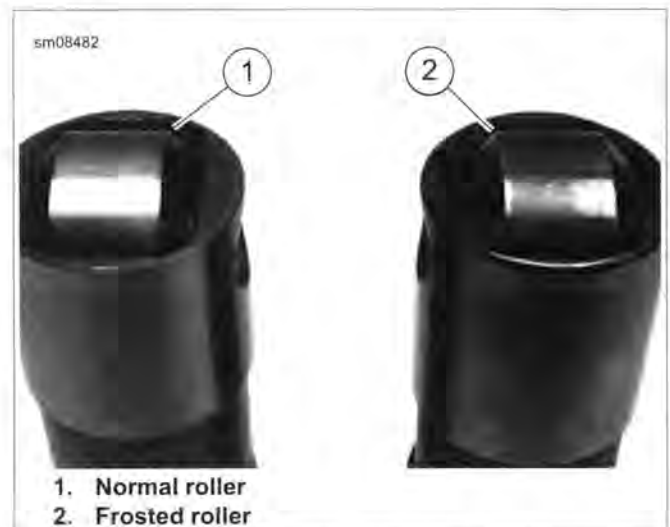

Figure 3-31. Roller Inspection
- c. See Figure 3-31. Inspection may show that hydraulic lifter roller surface appears dull. This is frosting (2). Frosting is considered a cosmetic condition and does not affect function.